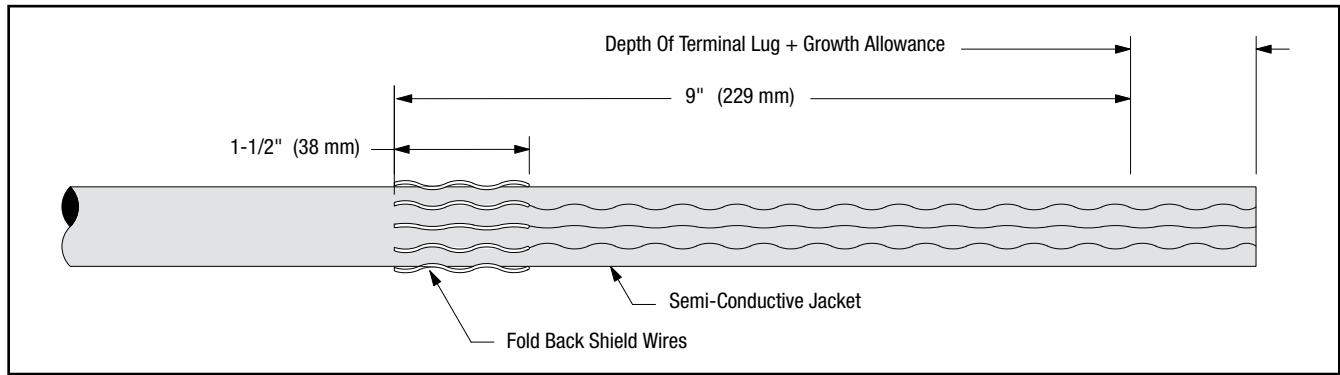

Figure 17
12.4 Remove constant force spring. Bend shield wires back upon cable jacket 1-1/2" (38 mm). Cut excess shield wire and discard (Figure 17).